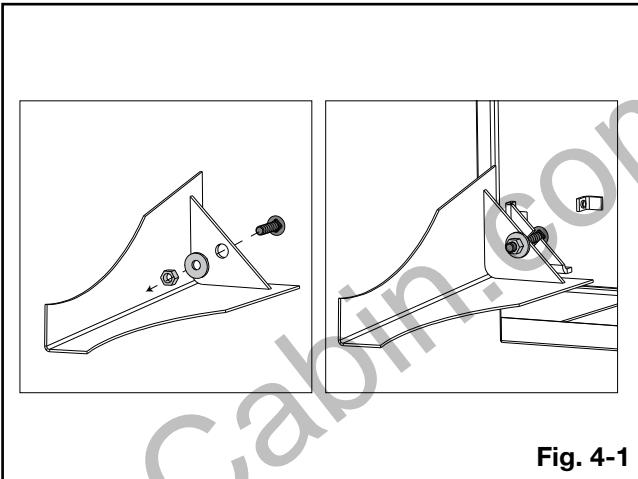

Fig. 4-1
- With the bolt through the legs, feed the washer and lock washer onto the bolt. Thread the nut a thread or two onto the bolt and slide the leg onto the slot on appliance (**Fig. 4-1**).